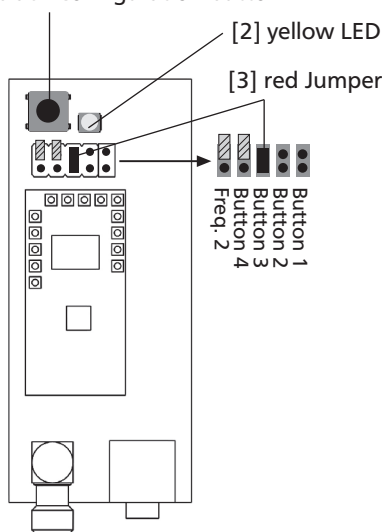

Fig. 2: Button 3 activated, Jumpers on Button 4 and Freq. 2 inactive (stored).
*Figure 2* shows a receiver with jumper active on „Button 3“, and in storage (inactive) position on „Button 4“ and „Freq. 2“. This receiver will respond to transmitter Button 3.